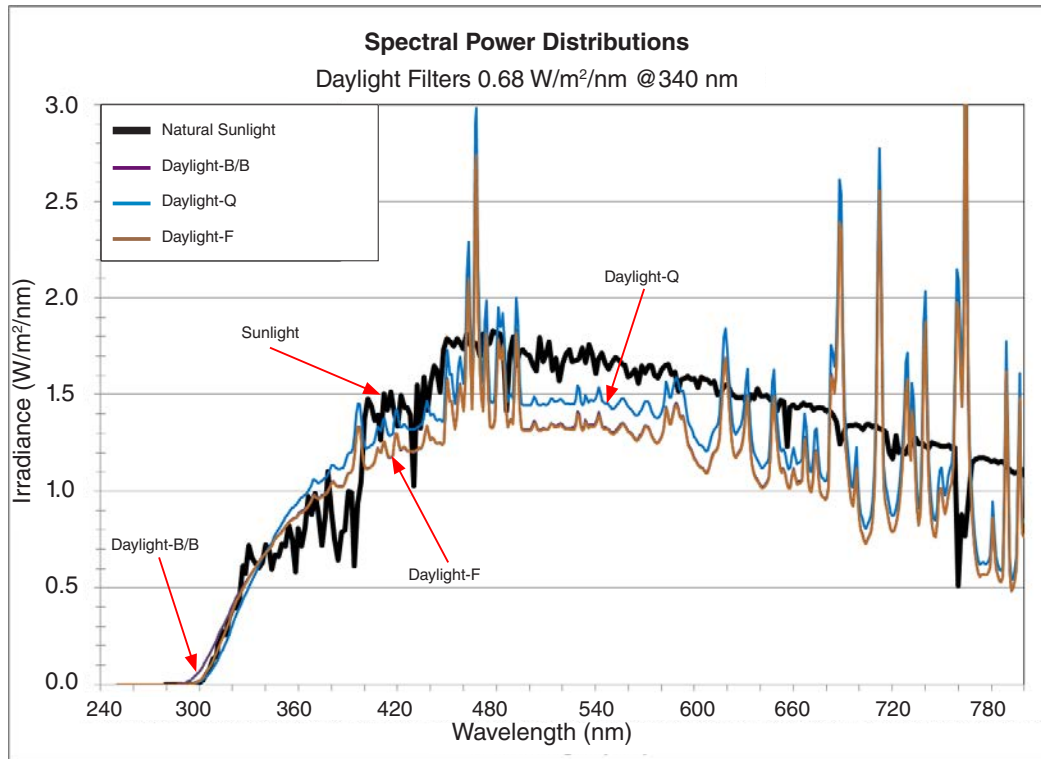

Figure 7.4b: Spectral power distributions of Daylight filters from 250-800 nm.
- Because the radiation from an unfiltered xenon arc contains too much short-wave UV to allow useful correlation to natural exposures on the earth's surface, Q-SUN testers employ various types of optical filters to reduce unwanted radiation and achieve an appropriate spectral power distribution (Figure 7.4b through Figure 7.4h)